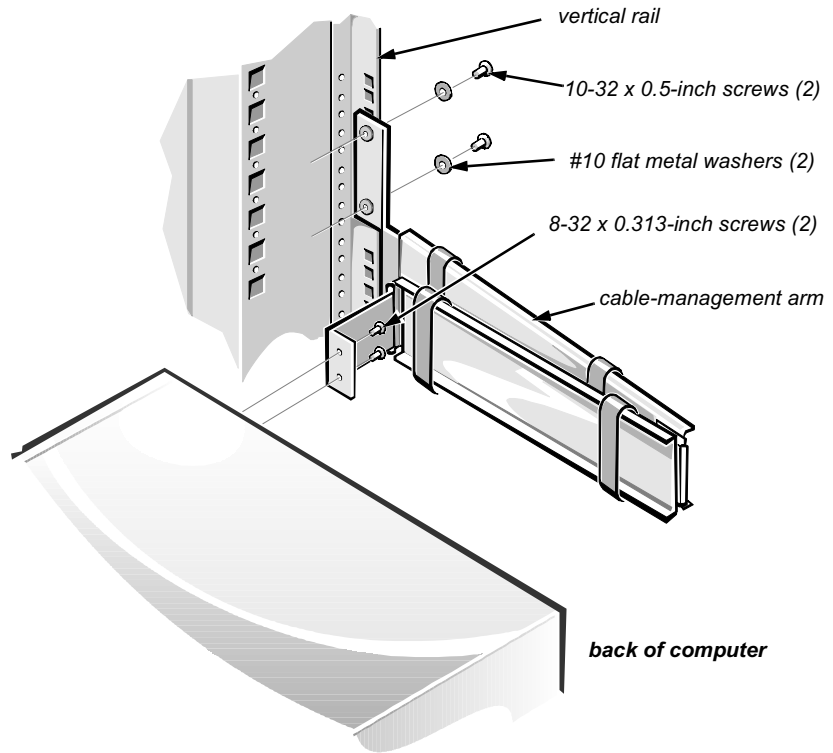

Figure 10. Installing the Cable-Management Arm
To install the cable-management arm on the computer, align the bracket on the end of the arm with the corresponding holes on the computer's back panel (see Figure 10). Secure the arm using two 8-32 x 0.313 Phillips-head screws.
- 5. Secure the loose end of the cable-management arm to the back vertical rail as shown in Figure 10.**
Use two 10-32 x 0.5-inch Phillips-head screws and two #10 flat metal washers to secure the cable-management arm to the back vertical rail as shown in Figure 10. (This is the rail on the right as you face the back of the rack.) Make sure that the cable-management arm is straight in relation to the computer—that is, parallel to the ground.
As you pull the computer out to its furthest extension, the slide assemblies will lock in the extended position. To push the computer back into the rack, press the green buttons near the front of both interior slides (see Figure 10) and simultaneously push in on the computer.